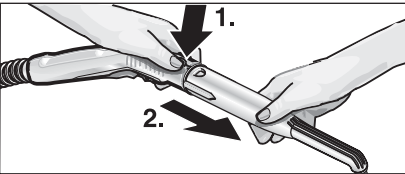

Figure 5: Detaching the accessory parts
- To detach the accessory parts, press the unlocking button (C2 or G3), and pull the items apart (see Figure 5).